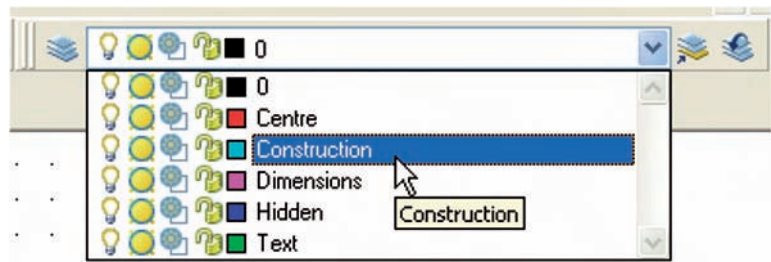

Fig. 15.28 Making layer **Construction** current
3. *Click* in the layer field of the **Layers** toolbar (Fig. 15.28) and *click* again on **Construction** to make it the current layer. Its colour is cyan.